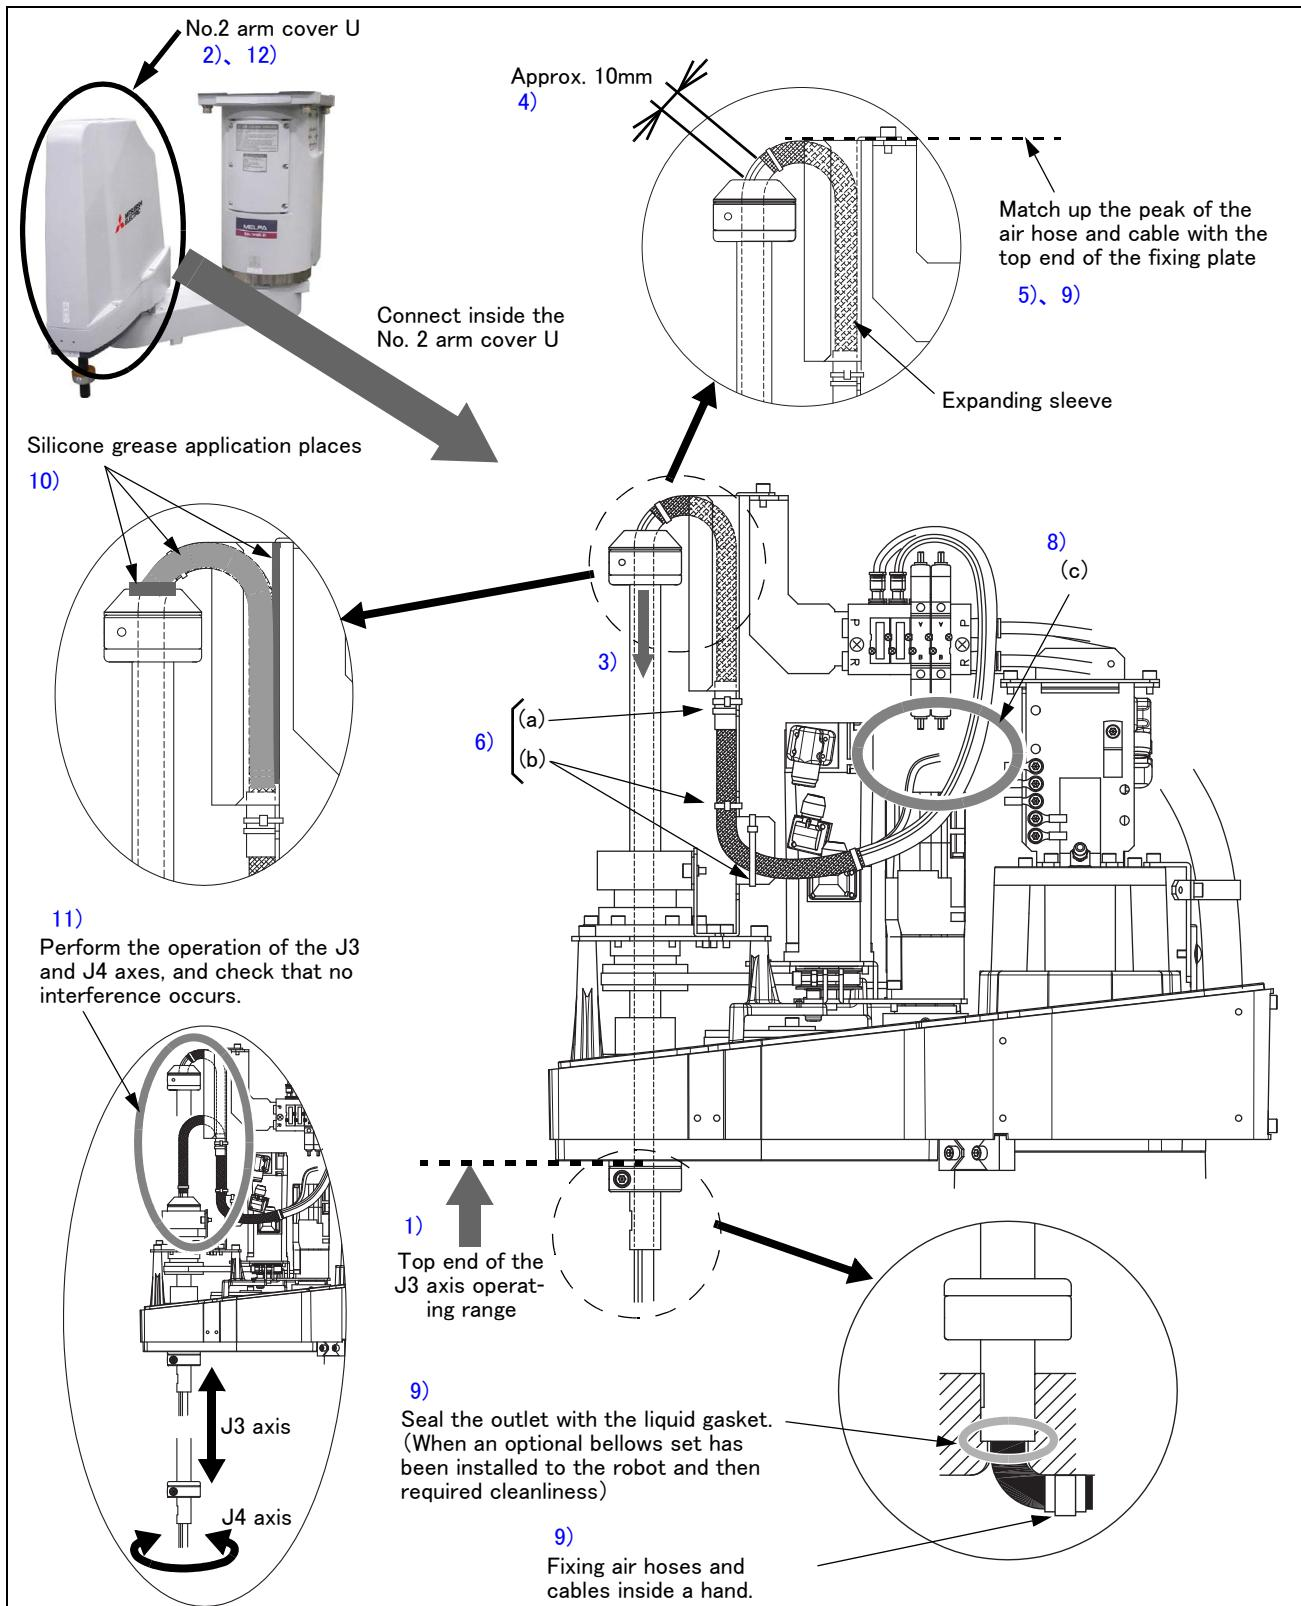

Fig.2-11 : Installation of air hoses and cables inside the robot's shaft
Refer to Page 21, "(3) Installation procedure" and install cables and air hoses correctly. The numbers in Fig. 2-11 are correspond to the same numbers in "(3) Installation procedure".